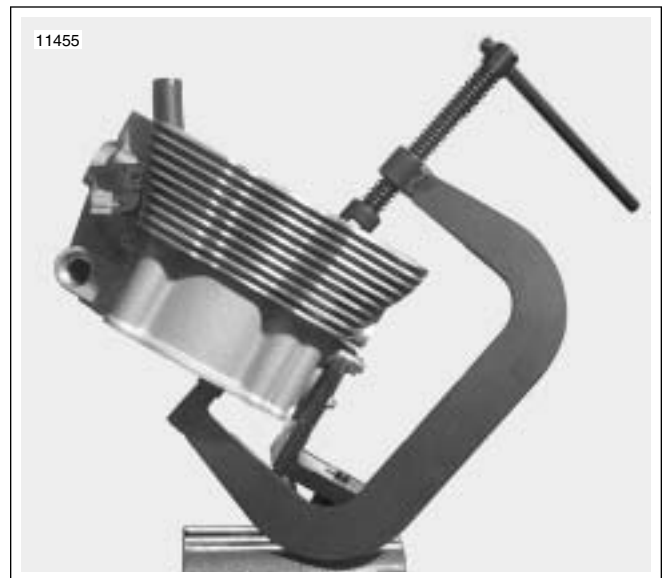

Figure 3-41. Valve Spring Compressor
6. See Figure 3-41. Install VALVE SPRING COMPRESSOR (HD-34736-B). Remove valves, springs and keepers. Keep removed parts organized so they will be assembled in same position.